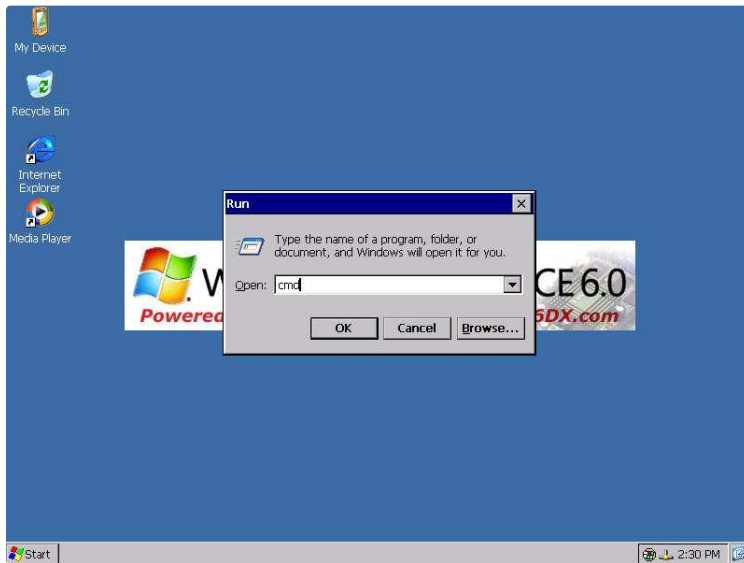

Fig. 36 - CE 6.0 desktop – Launching the CMD command
- With CE 6.0 running on the SBC, click on **Start | Run** from CE 6.0 desktop with the **CMD** command to open a console command window, as shown in Figure 36.